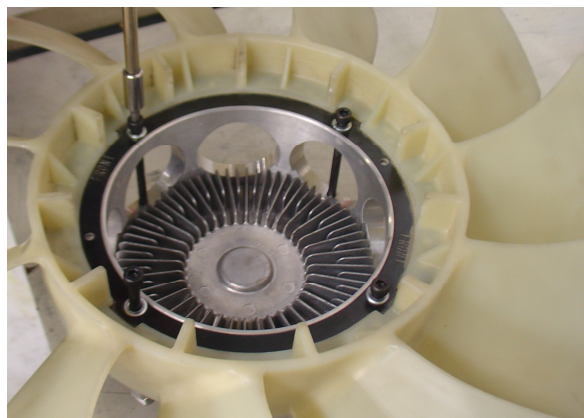

Figure 17
- Install each capscrew with one washer (00-9004-C00296*) and tighten to **62 lb-in.** (Figure 17)